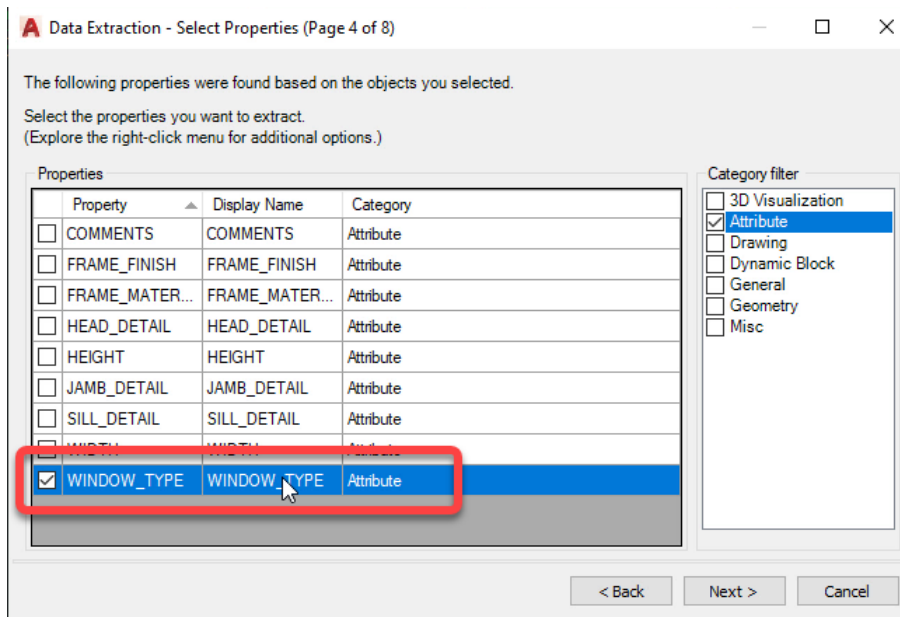

Figure 47: Choosing the WINDOW_TYPE Attribute value to extract.
- Choose the Properties to extract from the Objects specified in Step 5 (see Figure 47).